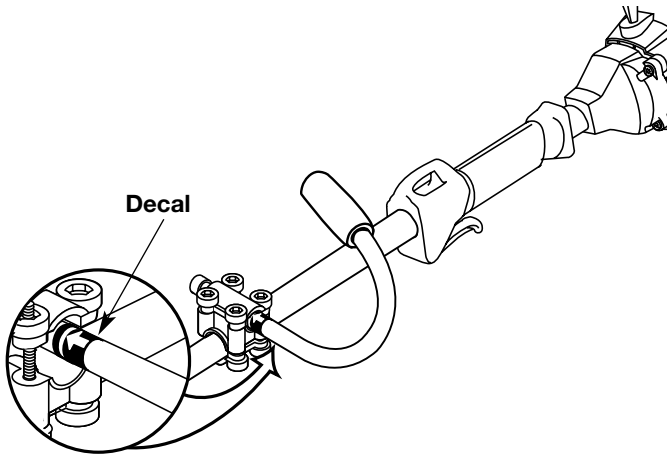

Fig. 2
2. Slide the J-handle in or out until the arrow/white line on the decal touches the clamp assembly (Fig. 2).